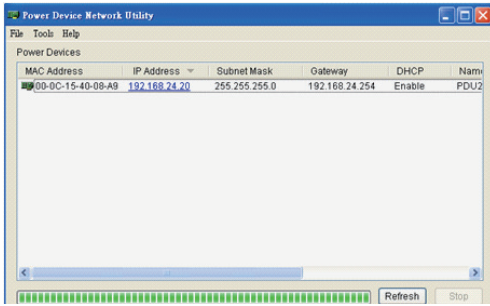

Figure 4. Equipment List
Step 1. Select the appropriate PDU device from the Equipment List (Shown in Figure 4.).